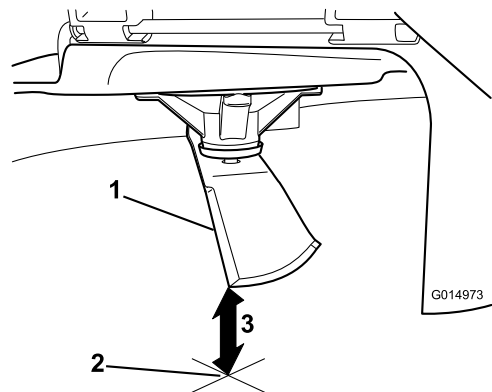

**Figure 100**
5. Measure from the tip of the blade to the flat surface (Figure 100).